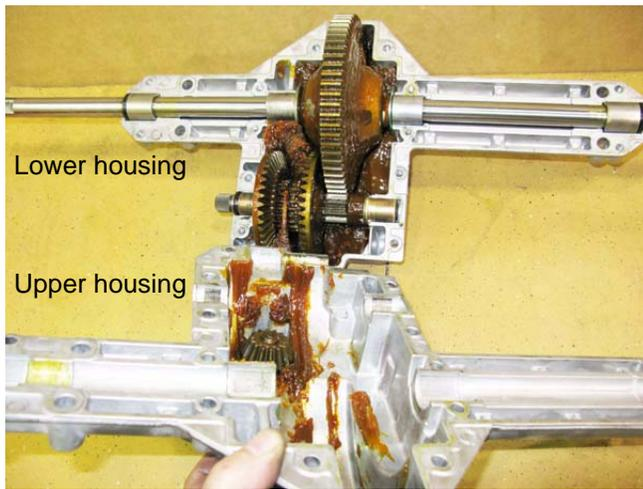

Figure 6.92
8. Separate the two housings. See Figure 6.92.